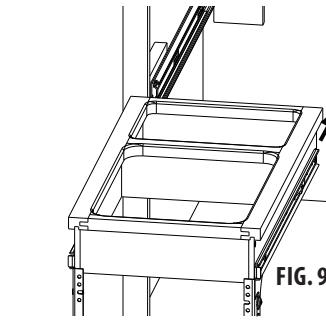

FIG. 9
10. Install wood frame into cabinet, engaging product member slides into cabinet member slides and pushing unit until it locks in place. (fig. 9)